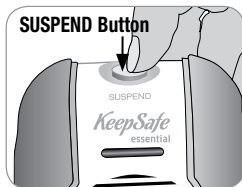
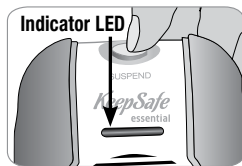

Fig. 7
Fig. 7a
1. With the magnet disconnected from the front of the alarm (as in an unauthorized patient/resident exit), press the SUSPEND button on the top of the alarm (Fig. 7) until the monitoring indicator LED flashes RED (Fig. 7a).